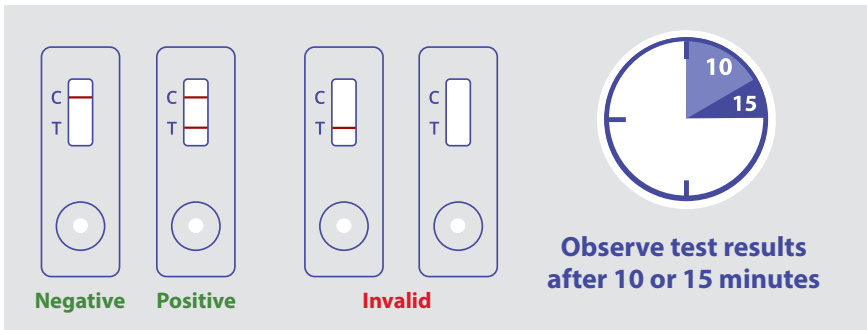

Figure 1. Test Outcomes
7.2.1. A negative result is indicated by the development of a strong control line only (upper line “C”). A negative result will not develop color at the test line (lower line). An example of a negative result is displayed in **Figure 1** labeled “**Negative**”.
7.2.2. A positive result will develop at the test line (lower line “T”) in addition to the control line (upper line “C”). The strength of the test line development will be dependent on the amount of tree nut protein present in the sample; any visible line is considered to be a positive result. An example of a positive result is displayed in **Figure 1** labeled “**Positive**”.
7.2.3. Failure of the control line to appear regardless of test line development is an invalid result. In addition, any line malformation visible on the membrane denotes an invalid test. Examples of malformations would be dark spots, gaps or incomplete line development. Examples of invalid results are displayed in **Figure 1** labeled “**Invalid**”. In the event of an invalid test, the procedure should be repeated using a new test device.